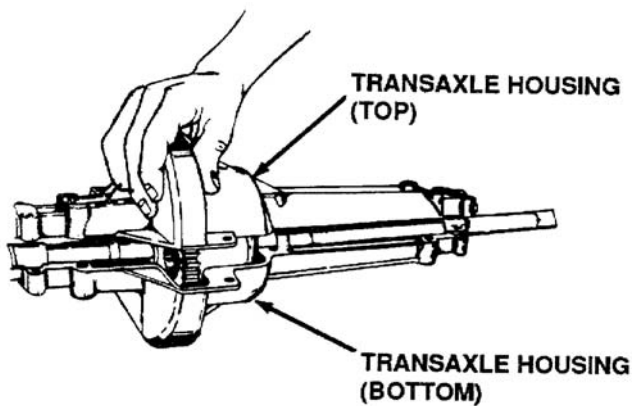

Figure 6-11. Removing Top Transaxle Housing
- Lift off the top transaxle housing. See Figure 6-11.